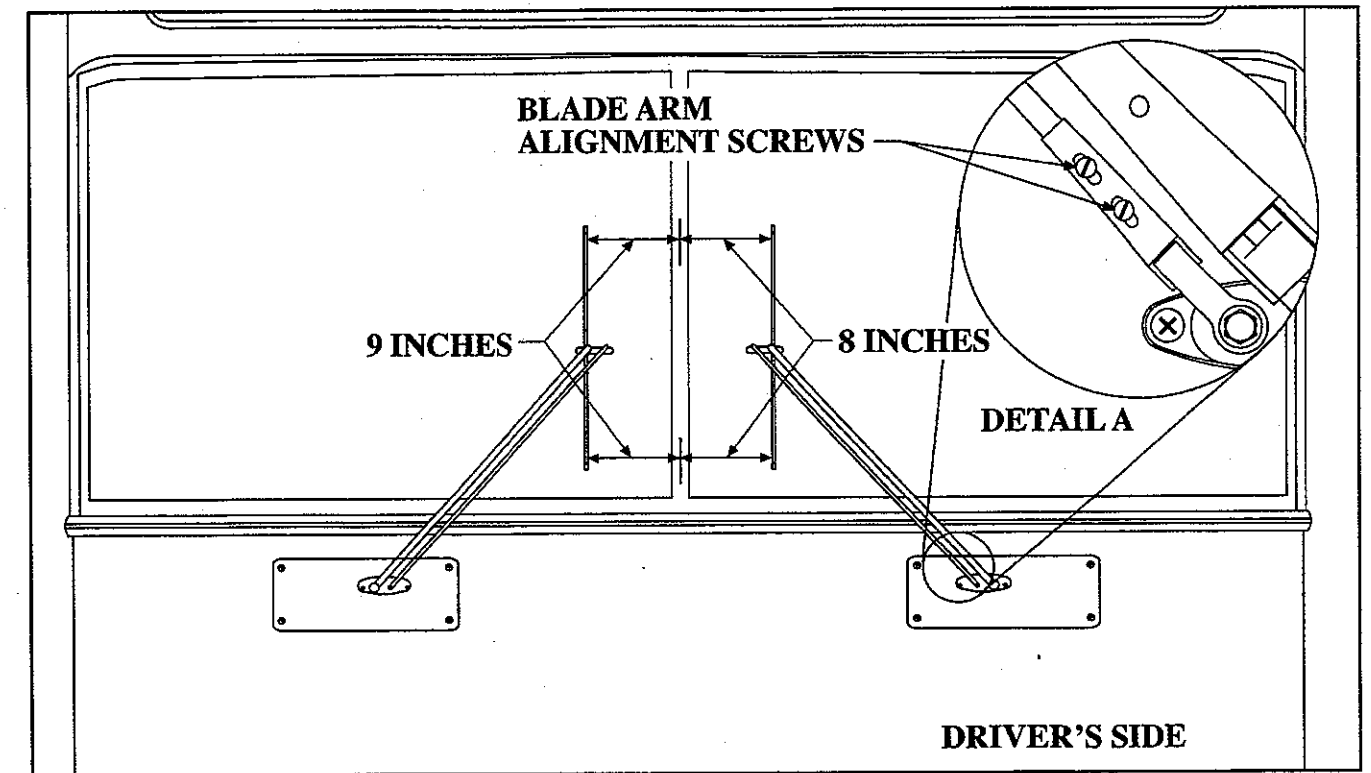

Figure 4—Blade Arm Alignment
3. Adjust the wiper blade for correct alignment. (See Figure 4—Blade Arm Alignment.)